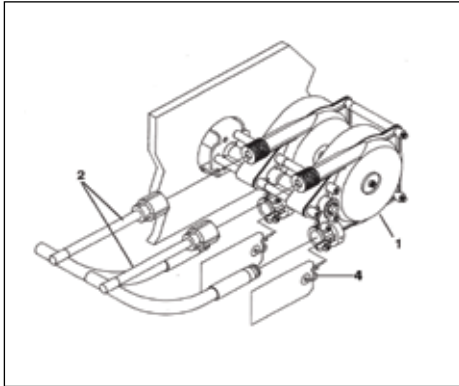

Figure 5.
STEP 5. Feed the Spent Travel Tubes (item 2, Fig. 5) over the exposed cable ends and thread retaining nuts onto spigots. Tighten nuts hand tight.